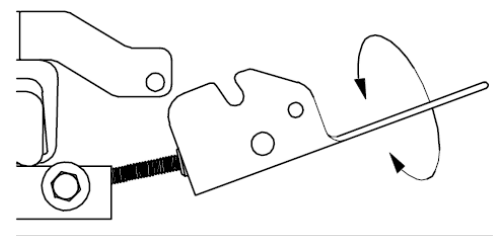

Figure 4
9. Close the foot latch against the hatch cover arm. If the hatch cover is not sealed or if the foot latch is difficult to close, adjust the height on the foot latch by rotating the foot latch on the eyebolt. [Figure 4] There should be enough compression on the gasket to pass your company's pull test (also called the "dollar bill test"). Do not over tighten the foot latch.